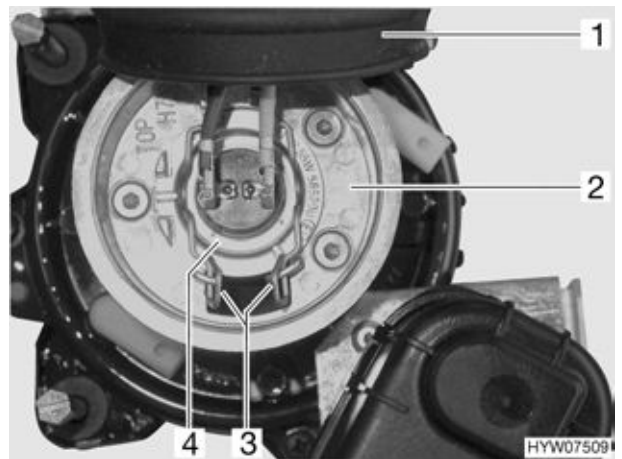

Fig. 171 Low beam
- Remove rubber cap (Fig. 171,1) from lamp housing (Fig. 171,2).
- Press the metal clips (Fig. 171,3) together and release them from the holder.
- Remove bulb (Fig. 171,4) with cable from the lamp housing.